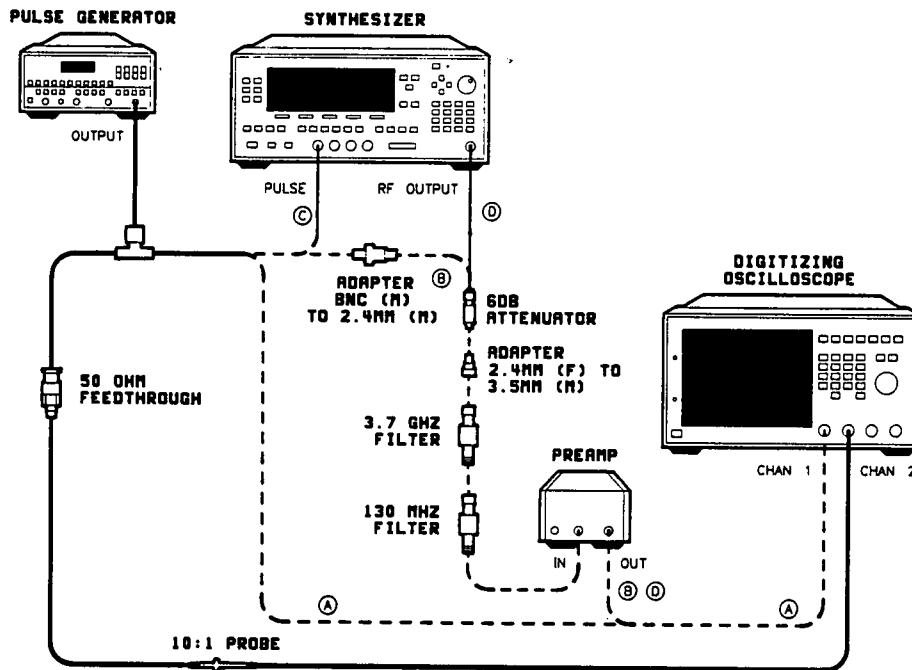

Figure 2-19. Video Feedthrough Test Setup
1. Preset all the instruments shown in figure 2-19 and let them warm up for at least one hour.
3. Connect the equipment as shown in figure 2-19 with the pulse generator connected directly to channel 1 of the oscilloscope (A).